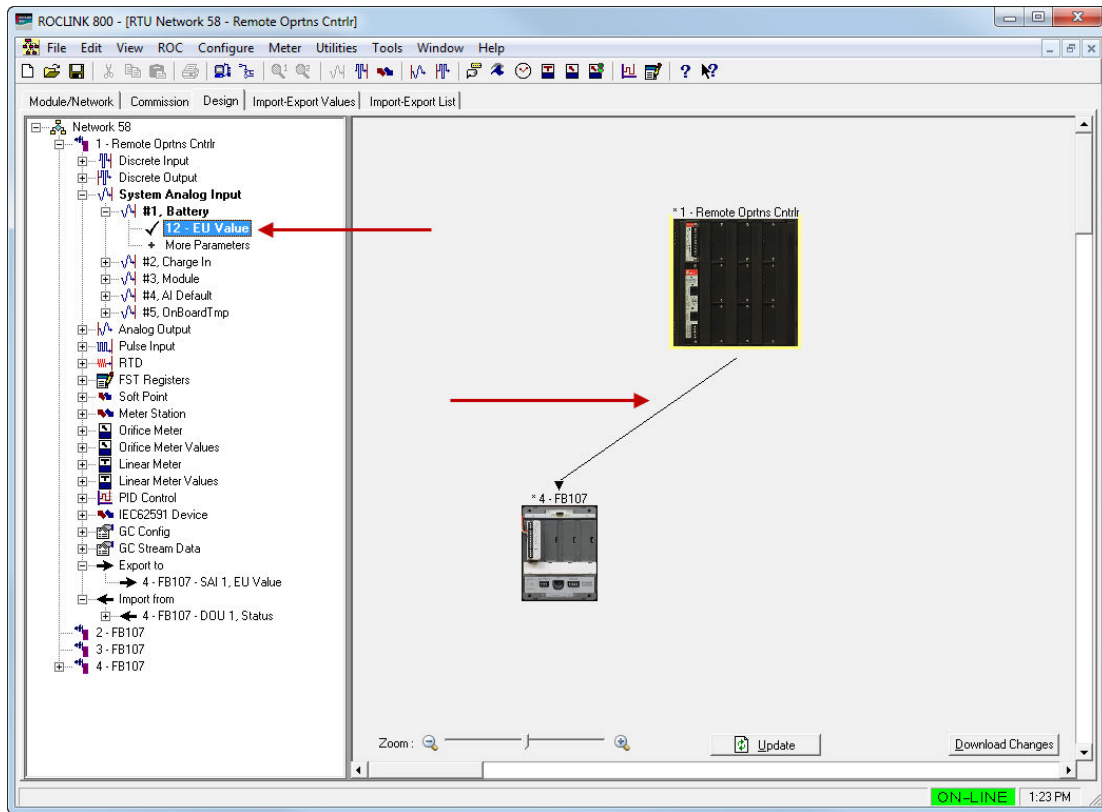

Figure 3-22. Defined Export (NAP to Node)
4. Defining an import to the node is just as simple. Select the NAP, expand the device tree, and drag-and-drop a value onto the node (see *Figure 3-22*):